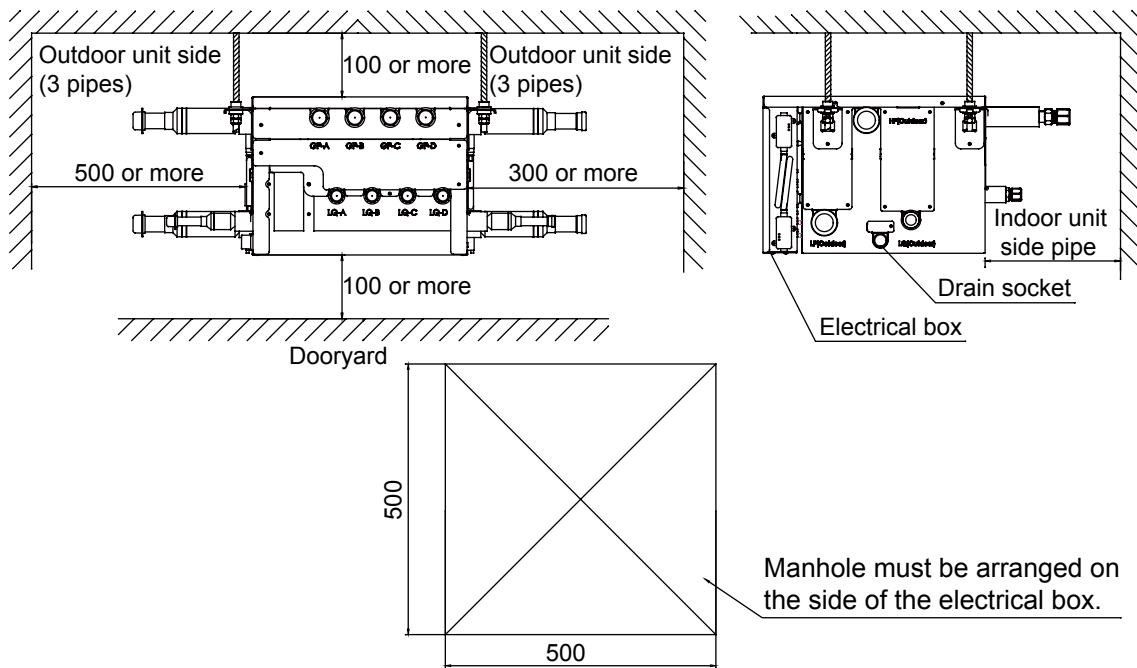

Fig.1
- Ensure that there is enough space for installation and maintenance as show in Fig.1